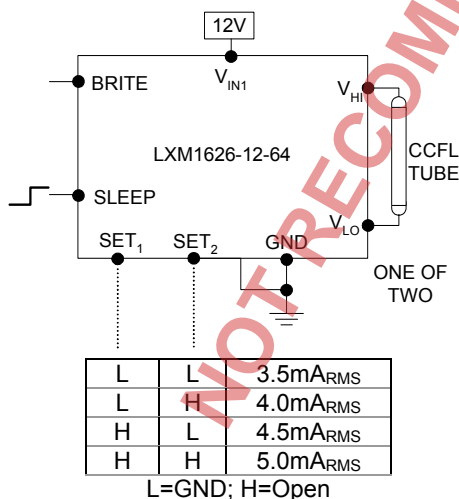

Figure 2 – Max Output Current
- Use the SET₁ and SET₂ (see Figure 2) inputs to select the desired maximum output current. Using these two pins in combination allows the inverter to match a wide variety of panels from different manufacturers. Generally the best lamp lifetime correlates with driving the CCFL at the manufactures nominal current setting. However the SET₁ and SET₂ inputs allow the user the flexibility to adjust the current to the maximum allowable output current to increase panel brightness at the expense of some reduced lamp life.